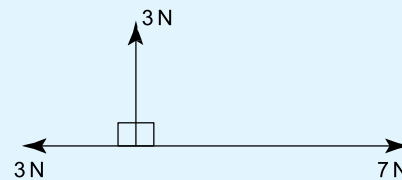

Figure 5.35
14. The magnitude of the resultant of the vectors shown in Figure 5.35 is: